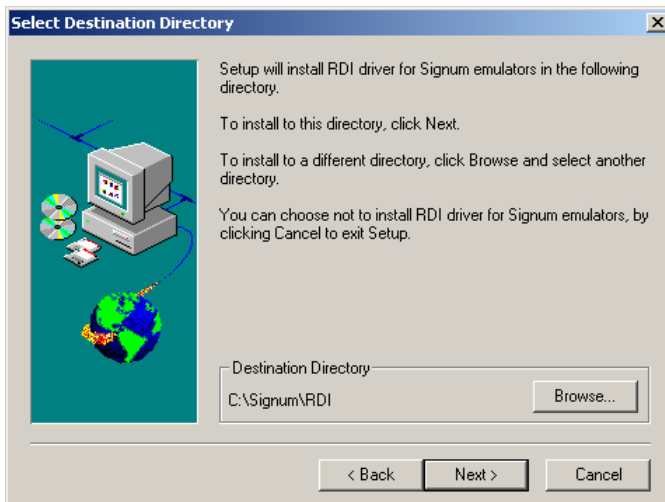

FIGURE 1 Selecting the folder for the driver.
1. The Setup program for installing the Signum RDI driver for the RLink emulator from Raisonance is invoked during the RIDE environment installation process. In the opening dialog box of the Setup program, select the destination folder for the RDI driver (Figure 1).